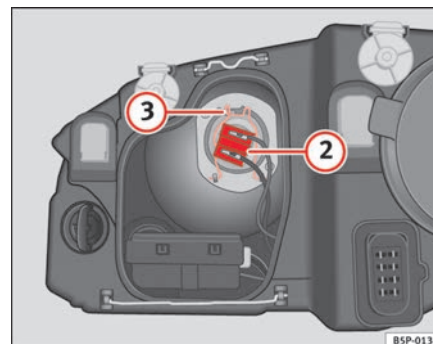

Fig. 182 Dipped head-lights
- Remove the connector ⇒ page 257, fig. 182 ② from the bulb.
- Disengage the retainer spring ⇒ page 257, fig. 182 ③ pressing inwards to the right.